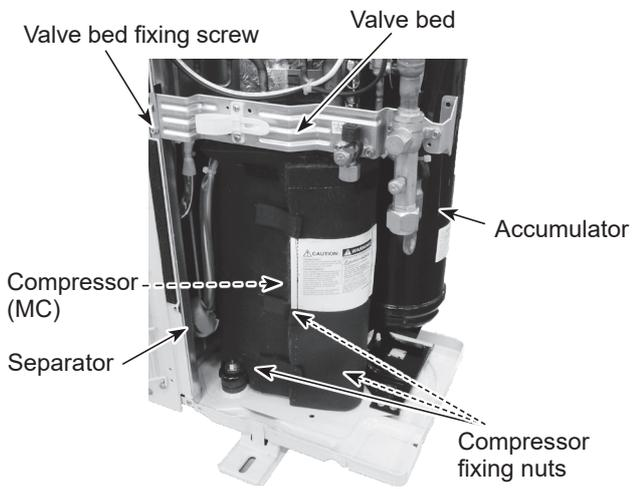

Figure 5
3. Remove the side panel (R) and the electrical parts box. (Refer to procedure 3)
7. Remove 3 separator fixing screws (4 × 10). (See Figure 5)